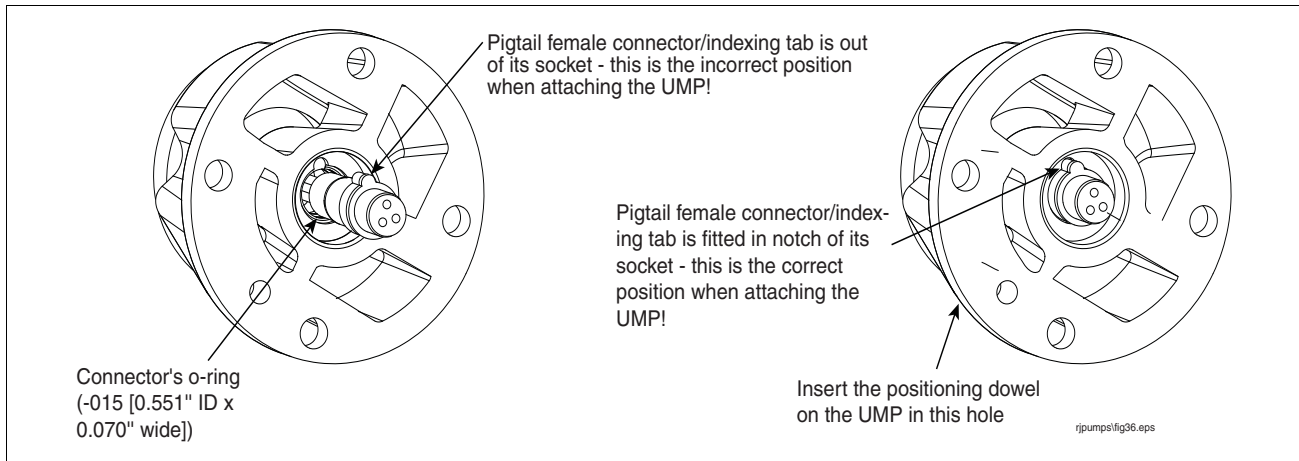

Figure 31. Verifying Pigtail's Female Connector Is Seated Properly
- Pull the pigtail connector in the discharge head out far enough to see the o-ring in the sidewall of its socket (see Figure 31). Remove the connector's o-ring from the connector's socket and discard it. Get a 0.551" ID x 0.070" wide o-ring from the kit and lubricate it with petroleum jelly. Slide the new o-ring over the pigtail connector and push it in the groove in the wall of the connector's socket. Lubricate the pigtail connector body with petroleum jelly and push it back into its socket, making sure its index tab is in the socket's notch.
- Align the UMP positioning dowel so it inserts in the proper hole in the discharge head (see Figure 31) and push the UMP into position using hand force only. The UMP should be snug against the discharge head prior to installing the UMP retaining bolts.